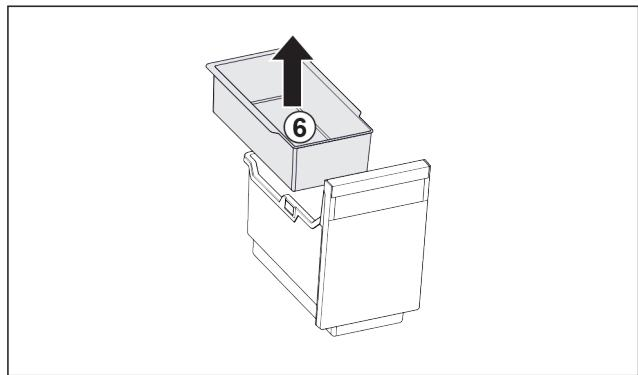

Fig. 124
- ▶ Remove the hang-on tray Fig. 124 (6).